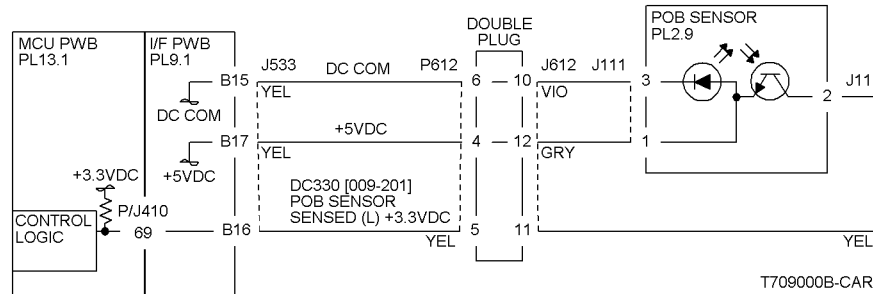

Figure 1 Typical Reflective Sensor Circuit Diagram
When sensors are unplugged, the input at the PWB should always be high if there is no harness short or PWB failure. Check the output wire from the sensor (typically pin 2 on a 3 pin connector) to the PWB for a short circuit. If the wire is good, replace the PWB. **Figure 1** represents a typical sensor for this machine.
Some sensors have built-in inverters and the outputs will go to the low (L) state when the sensors are blocked. In other situations, the processing of the signal in control logic may cause the logic level displayed on the UI or the PWS to be the opposite of the actual voltage output by the sensor. The specific RAP and/or Circuit Diagram will indicate if this is the case. **Figure 1** is an example of a typical sensor circuit for this machine